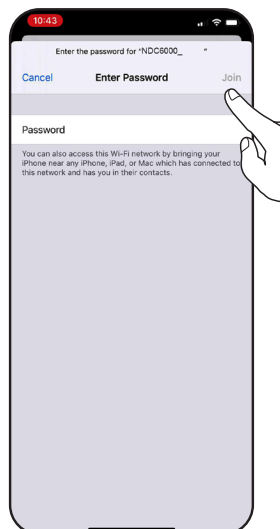

Figure 19
4. Enter the operator's password and click "Join". (Figure 19)